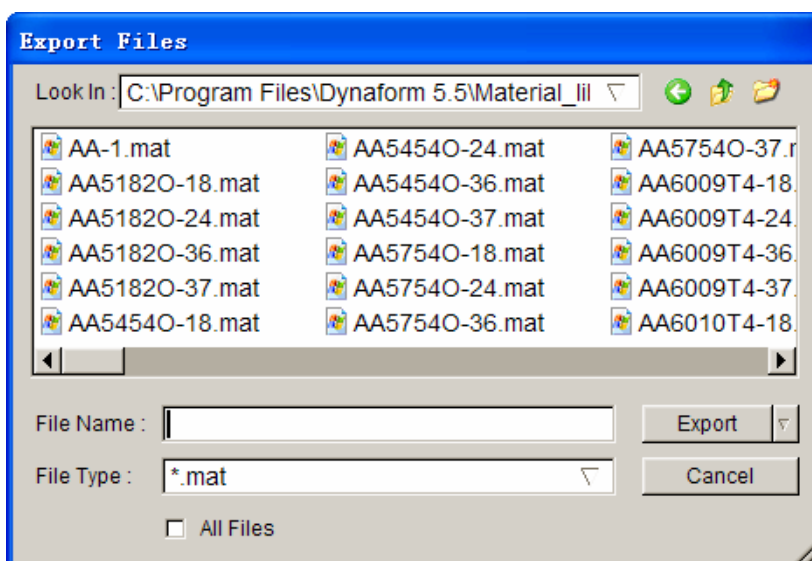

Figure 8.2.32 Export Material to a File
**EXPORT:** Allow the user to export current material to a file. File is saved with an extension “.mat”. See Figure 8.2.32 for the export GUI window.